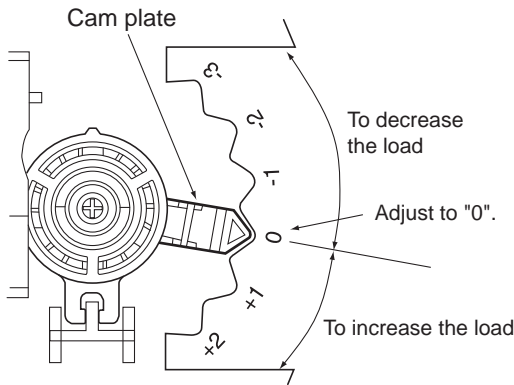

Fig. 1 Cam plate
1. The adjustment value of the Cam plate should be adjusted to "0" (Refer to Fig. 1).